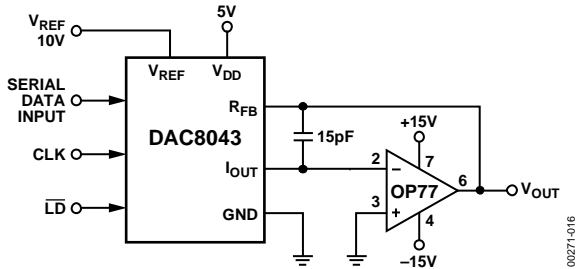
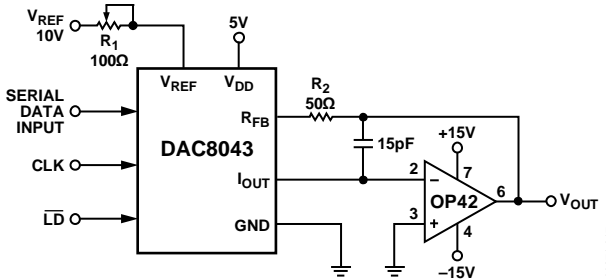
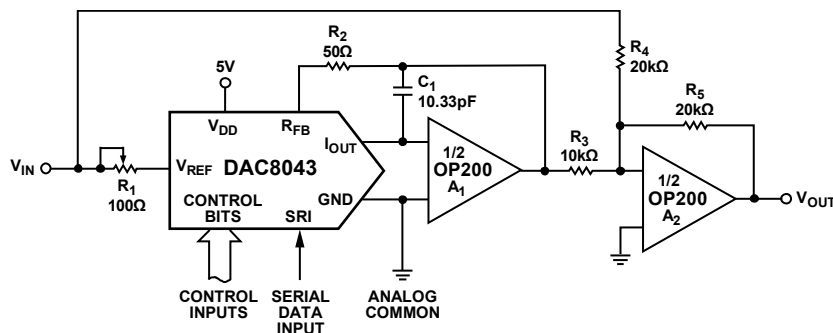

Figure 16. Unipolar Operation with High Accuracy Op Amp (2-Quadrant)
Figure 17. Unipolar Operation with Fast Op Amp and Gain Error Trimming (2-Quadrant)
Figure 19. Bipolar Operation (4-Quadrant, Offset Binary)
1. Phase compensation (see Figure 16 and Figure 17).
In most applications, linearity depends upon the potential of the I_{OUT} and GND pins being equal to each other. In most applications, the DAC is connected to an external op amp with its noninverting input tied to ground (see Figure 16 and Figure 17). The amplifier selected should have a low input bias current and low drift over temperature. The amplifier's input offset voltage should be nulled to less than 200 μV (less than 10% of 1 LSB).
The circuits shown in Figure 16 and Figure 17 may be used with an ac or dc reference voltage. The output of the circuit ranges between 0 V and approximately -V_{REF} (4095/4096), depending upon the digital input code. The relationship between the digital input and the analog output is shown in Table 6. The limiting parameters for the V_{REF} range are the maximum input voltage range of the op amp or ±25 V, whichever is lowest.
Gain error may be trimmed by adjusting R₁, as shown in Figure 17. The DAC register must first be loaded with all 1s. R₁ may then be adjusted until V_{OUT} = -V_{REF} (4095/4096). In the case of an adjustable V_{REF}, R₁ and R₂ may be omitted, with V_{REF} adjusted to yield the desired full-scale output.
Digital Input MSB LSB	Nominal Analog Output (V _{OUT} as Shown in Figure 16 and Figure 17)
¹ Nominal full scale for Figure 16 and Figure 17 circuits is given by
² Nominal LSB magnitude for Figure 16 and Figure 17 circuits is given by
Figure 19 details a suggested circuit for bipolar, or offset binary, operation. Table 7 shows the digital input to analog output relationship. The circuit uses offset binary coding. Twos complement code can be converted to offset binary by software inversion of the MSB or by the addition of an external inverter to the MSB input.
MSB LSB	(V _{OUT} as Shown in Figure 19)
¹ Nominal full scale for Figure 19 circuits is given by
² Nominal LSB magnitude for Figure 19 circuits is given by
The transfer function for the DAC8043 connected in the multiplying mode, as shown in Figure 16, Figure 17, and Figure 19, is